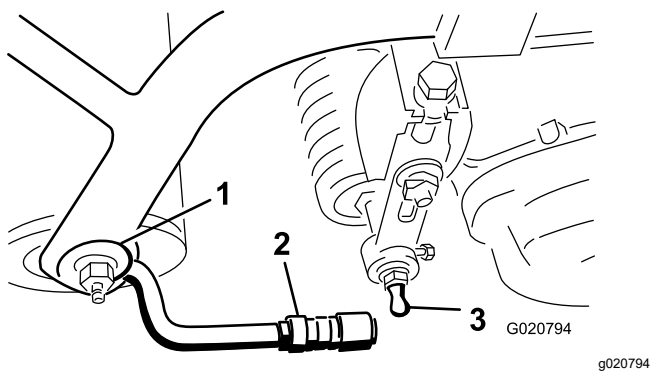

Figure 7
3. Slide the sleeve back on the ball joint receiver and hook the receiver onto the cutting unit ball stud. Release the sleeve so that it slides over the stud and locks the assemblies together (Figure 7).